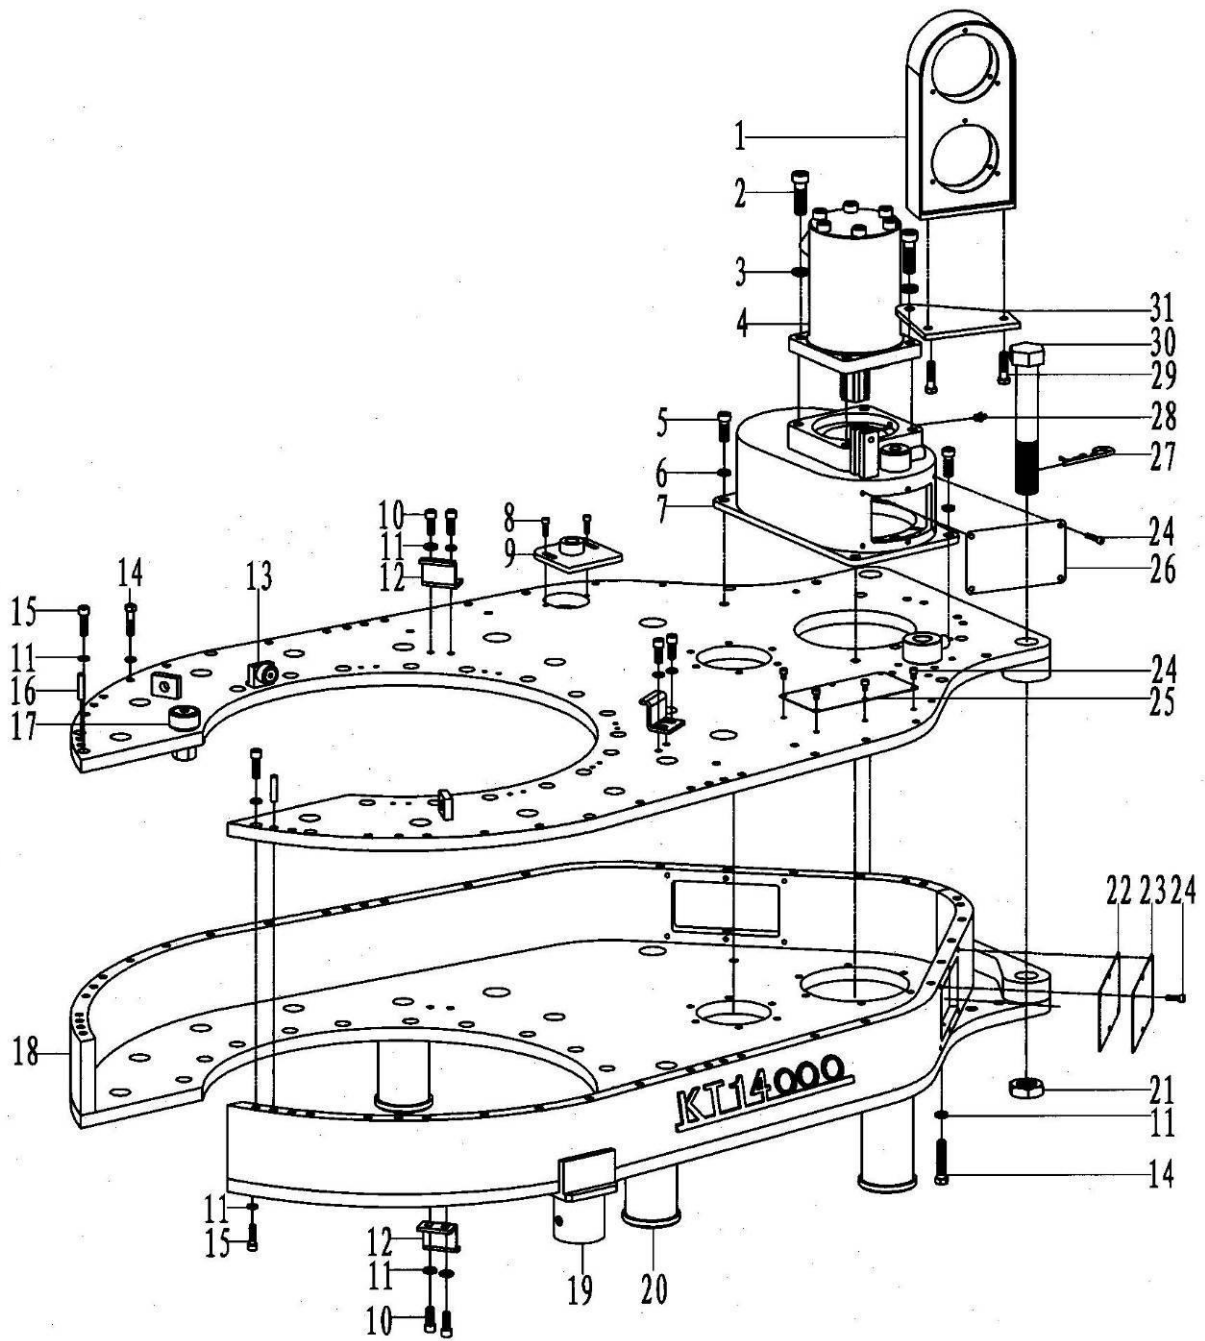

Fig 4
7.4 Shell and accessories (Fig 4, Table 4)